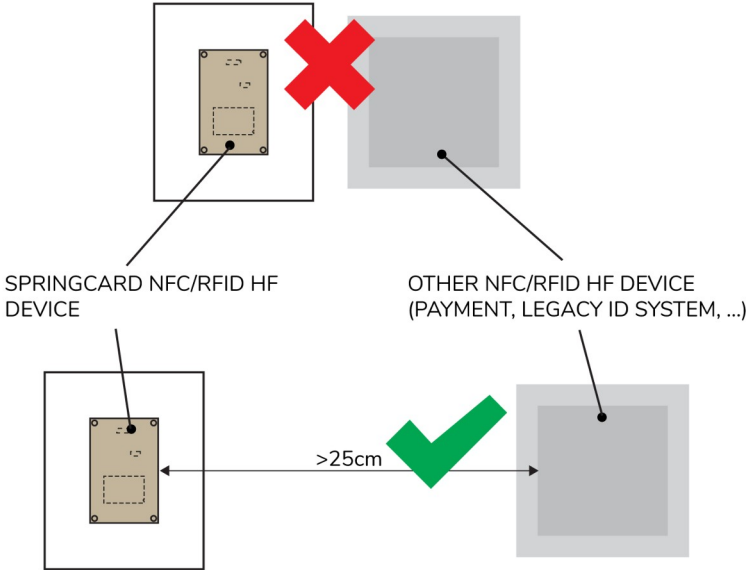

Figure 8
- A minimum distance of 250mm is advised from any adjacent contactless readers or couplers operating at 13.56MHz (*Figure 8*).